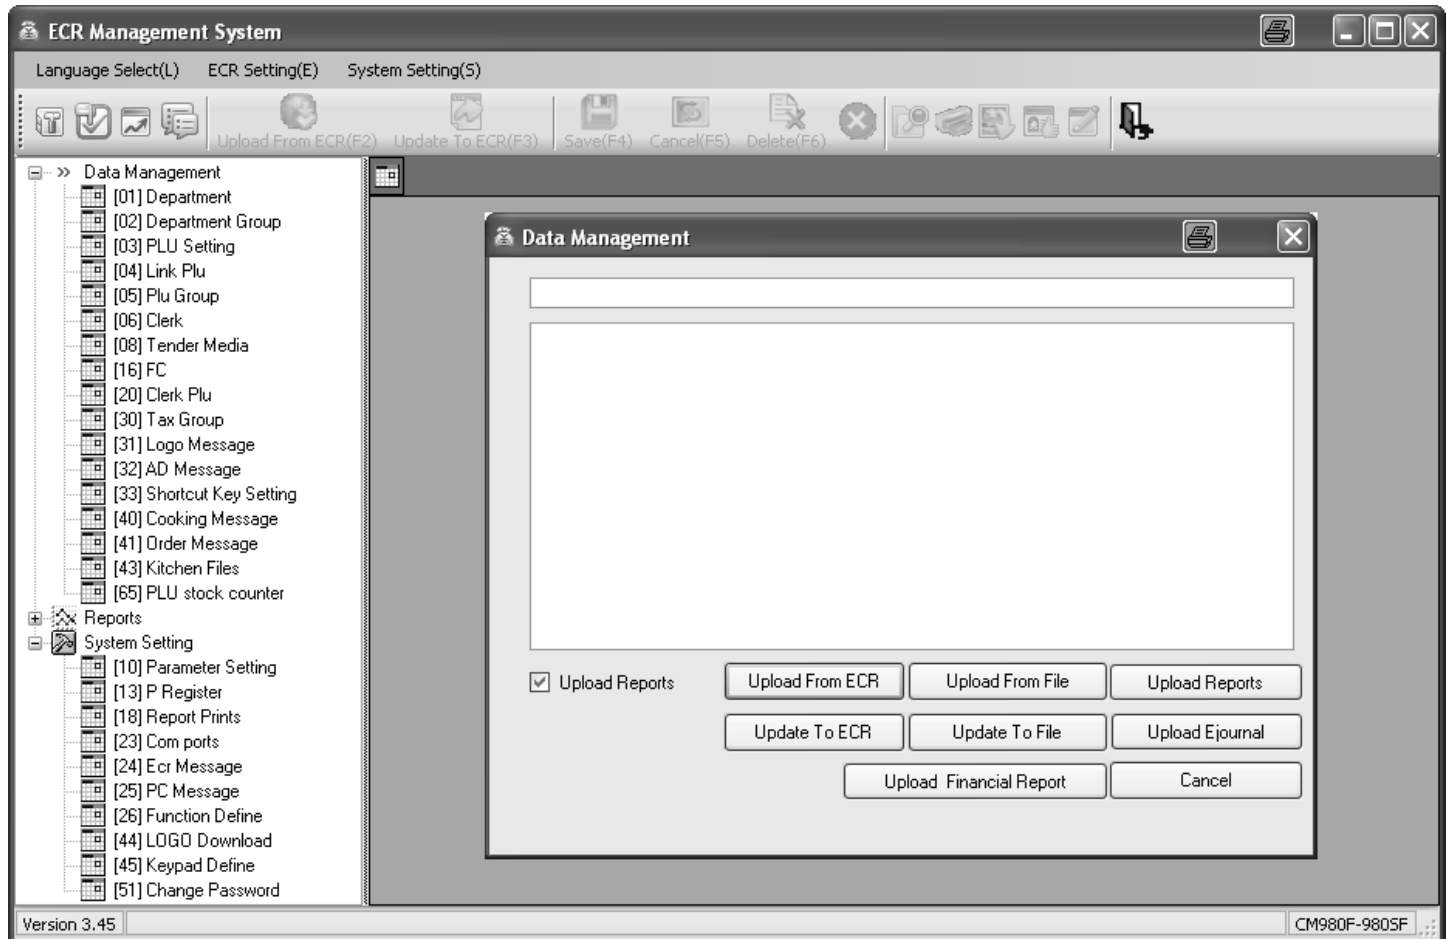

Fig. 9
3. Click on the **[Update To ECR]** button (see Fig. 9).
3. Click on the **[Upload From ECR]** button (see Fig. 9).